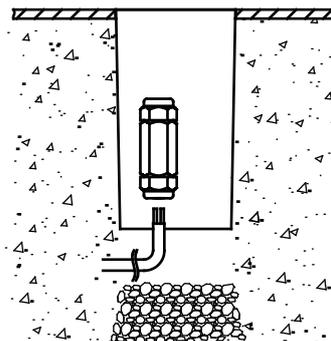

Fig 2.2
2.2 Connect the power cable to a waterproof junction box. (See Fig 2.2)